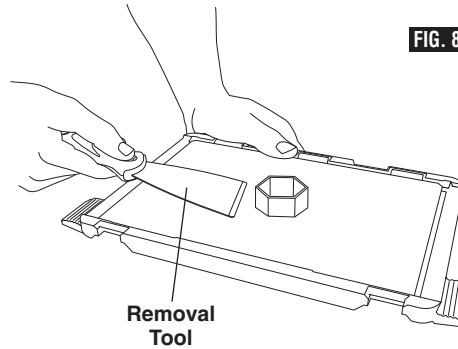

FIG. 8
3. Peel your object from the build platform. If needed, gently use the object removal tool to remove object from build platform (figure 8).